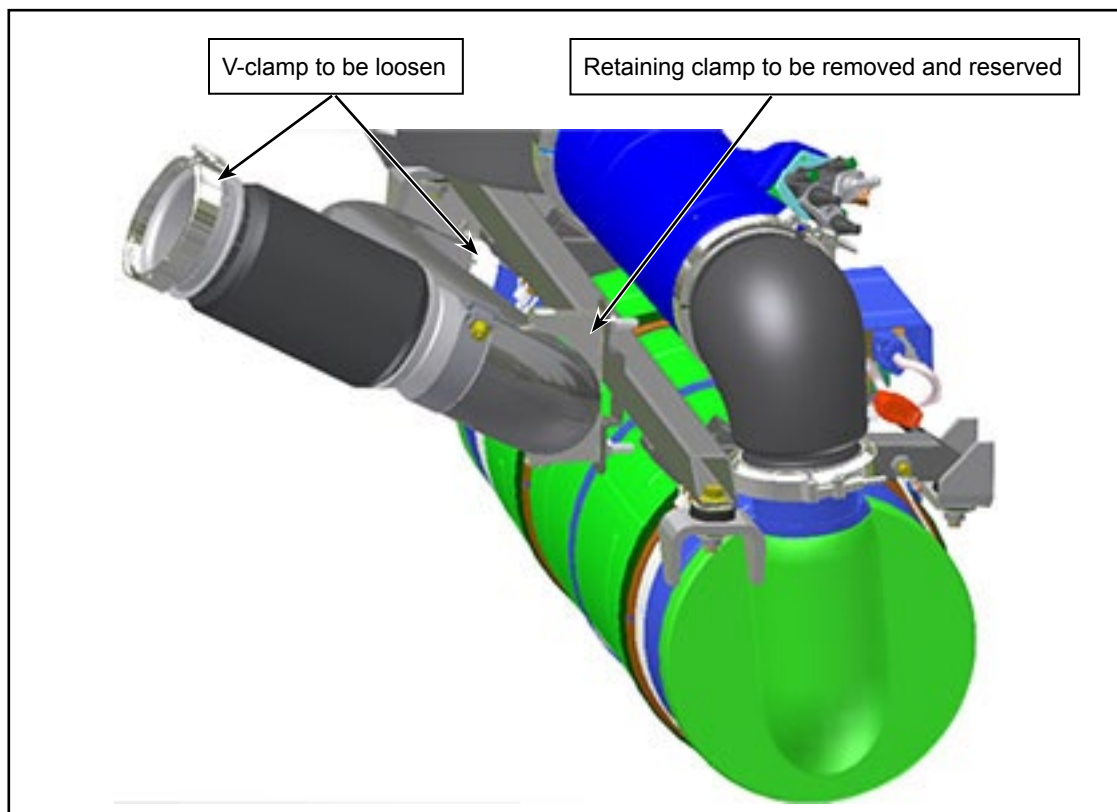

Figure 1 - Removal of Exhaust Pipe and Flexible Bellows
- 1.4. Fully loosen the top V-clamp of the flexible bellows. See Figure 1.
- 1.5. Remove the retaining clamp of the exhaust pipe. Reserve the retaining clamp and hardware. See Figure 1.
- 1.6. Fully loosen the exhaust pipe V-clamp. See Figure 1.
- 1.7. Remove the exhaust pipe and flexible bellows. Reserve all the clamps and hardware. See Figure 1.